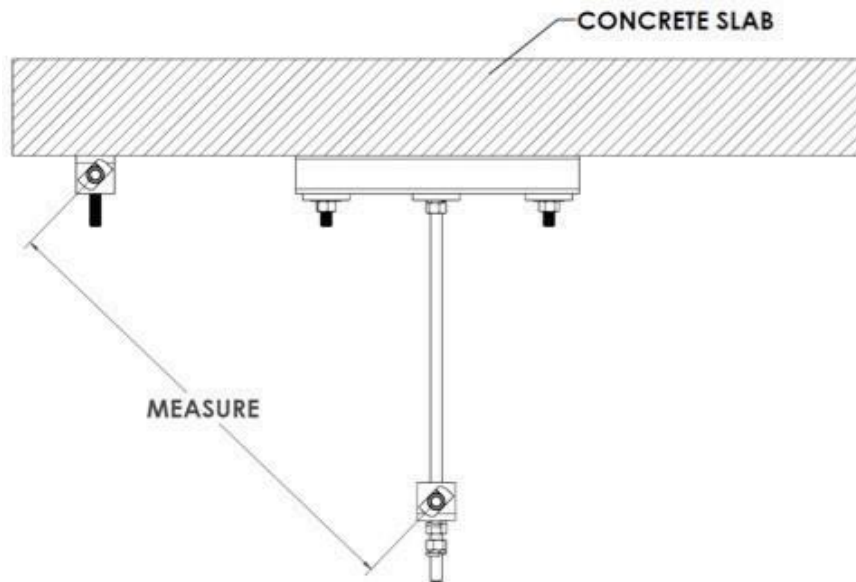

Figure 265: **Measure the Length Between the Two-Hole 90° Strut Fitting on the Threaded Rod and the Concrete Slab**
9. Measure the length between the two-hole 90° strut fitting on the threaded rod and the concrete slab (Figure 265).